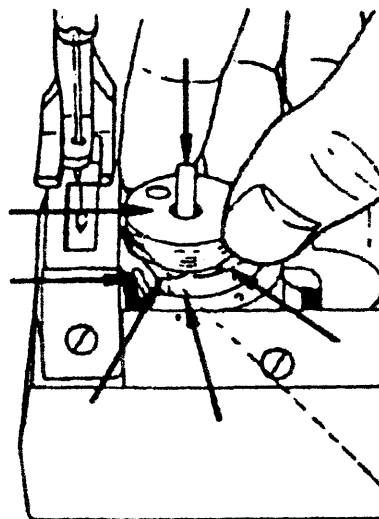

Fig.7
8. REMOVING AND INSERTING THE BOBBIN: (Fig.7)